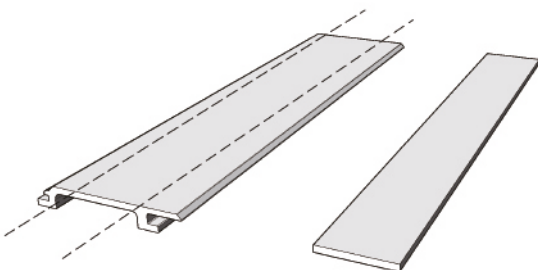

Fig17
1. Determine (cut) the size of the wall cladding according to the size of the doors and windows. As shown in Figure 17: